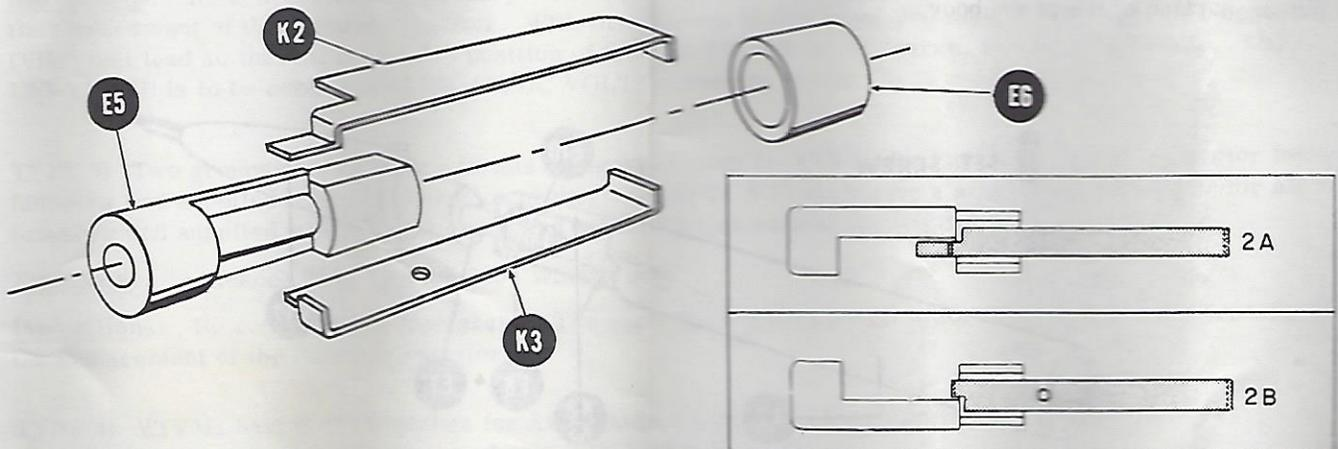

Figure 2
5. () Figure 2. Study the figure before proceeding with the assembly. Phosphor-bronze contacts K2 and K3 are formed differently and may not be interchangeable from the relative positions shown in the drawing. K2 and K3 can most easily be differentiated by observing the small hole to be found in K3 but not in K2. Assemble as follows: Hold the black fiber contact holder E5 as shown in the figure. Lay K2 against the flat surface X of E5, position it as shown in Figure 2A, and hold it there. Then lay K3 against the parallel flat surface of E5 underneath, position it as shown in Figure 2B, and hold K3 in place also. Next catch the free ends of K2 and K3 in the large diameter fiber tube E6, then move E6 down over K2 and K3 to pin them against the flat surfaces of E5. This is a fairly tight fit and some force is required. E6 should finally rest against the shoulder of E5 past which it can not be moved.